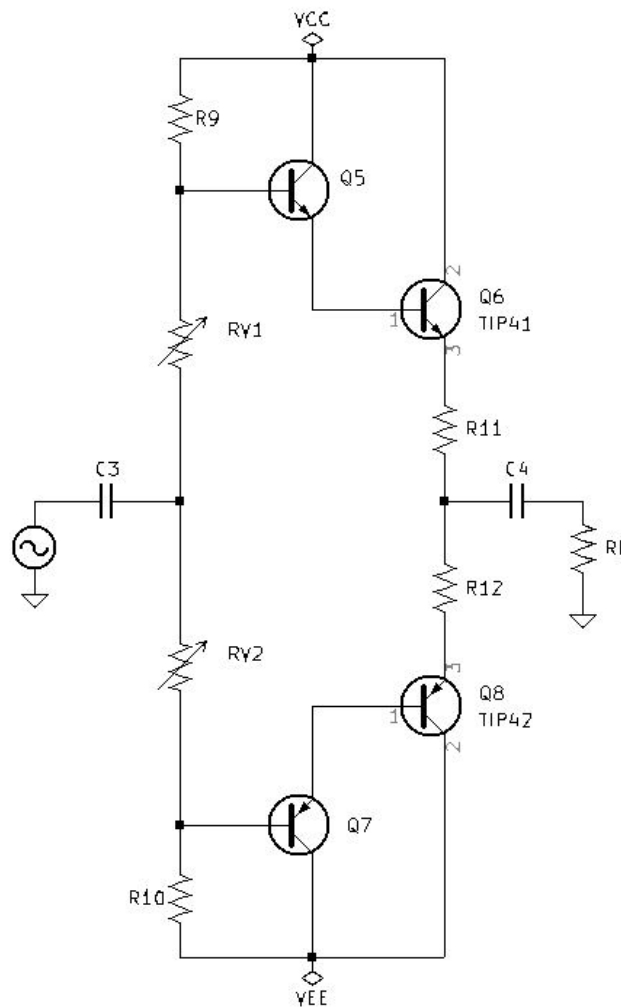

Figure 5.3: Push Pull Amplifier Calibration Circuit.
5. See Figure 5.3 *Push Pull Amplifier Calibration Circuit* on page 43.